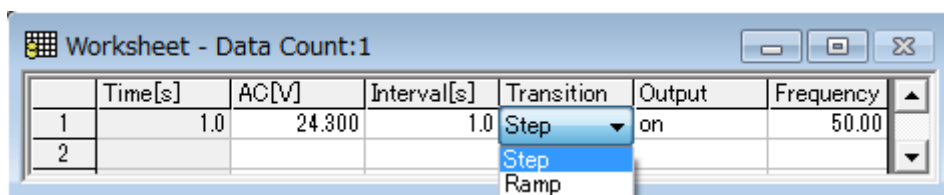

Fig. 7-5 Editing Data in a Cell
(3) To edit data, simply select the cell to be modified. This will allow you to edit the cell (Fig. 7-5). After editing, press the [Enter] key to confirm the change.